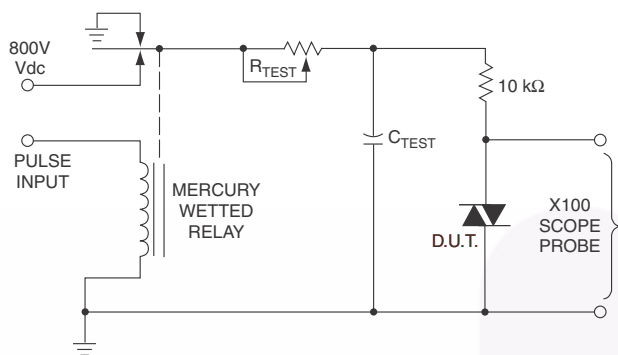

Figure 11. Static dv/dt Test Circuit
- This is static dv/dt . See Figure 11 for test circuit. Commutating dv/dt is a function of the load-driving thyristor(s) only.